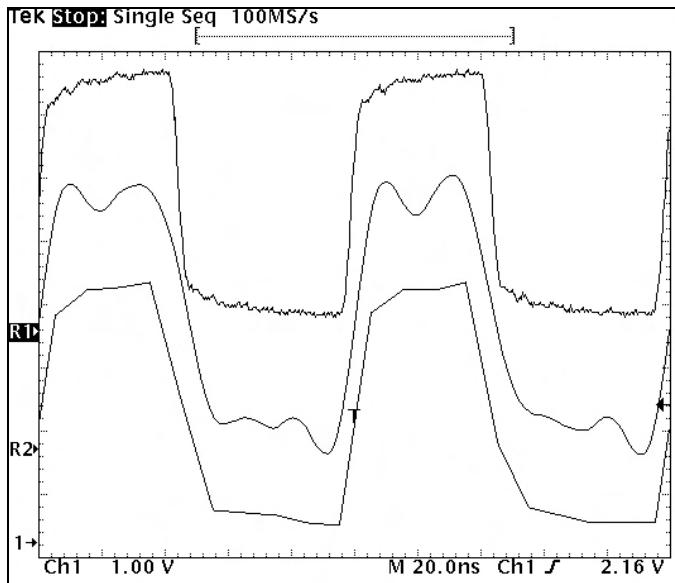

Figure 20. Under Sampling Can Produce Ring Aliasing When Using $\sin(x)/x$ Interpolation
So what will $\sin(x)/x$ do to a step response that is under sampled? In Figure 20, the top waveform (R1) is not under sampled, and is displayed correctly with $\sin(x)/x$ interpolation. The middle waveform (R2) is under sampled, with $\sin(x)/x$ interpolation used for the display. The bottom waveform (1) is under sampled, with linear interpolation (straight lines between acquisition samples) used for the display.